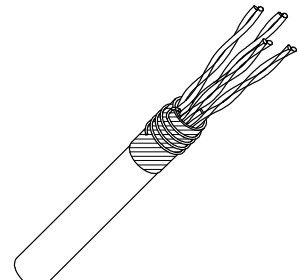

Fig.4
- 4) Pull the foil shield back from the forth pair over the jacket. Ensure the cable foil's conductive surface is facing out. Wrap the drain wire around the foil shield. (Fig. 4)